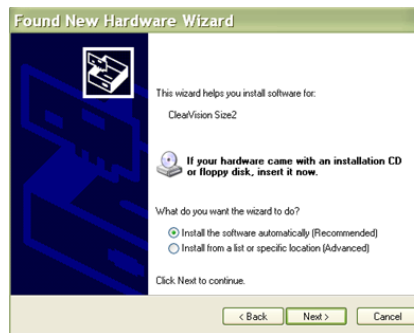

Figure 13: Found New Hardware Wizard in Windows XP (second screen)
- Select 'Install the software automatically' and continue by pressing the 'Next' button (Figure 13). Follow the wizard instructions and prompts to complete the drive installation.